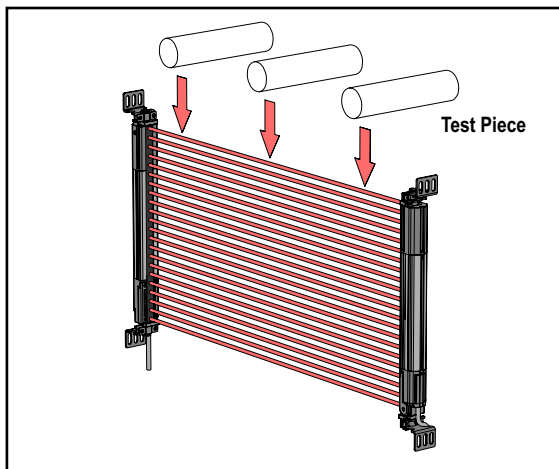

Figure 1. EZ-SCREEN LP trip test
- 5b With the guarded machine at rest, pass the test piece downward through the defined area in three paths:** near the receiver, near the emitter, and midway between them (Figure 1).